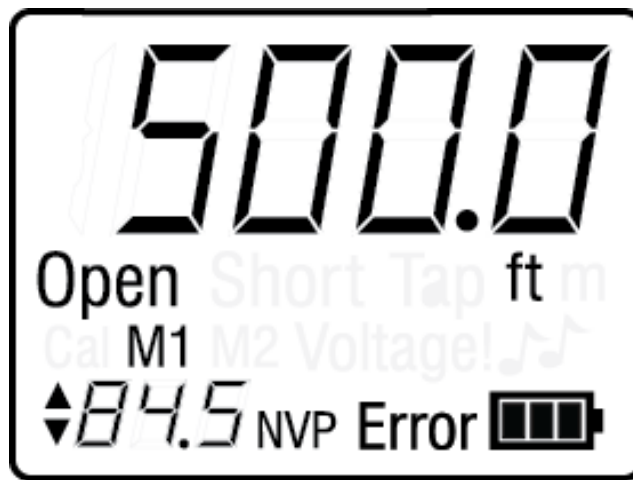

Figure 7. Error Message in Calibration Mode
- The “Error” message blinks at the bottom of the LCD display screen (see Figure 7).